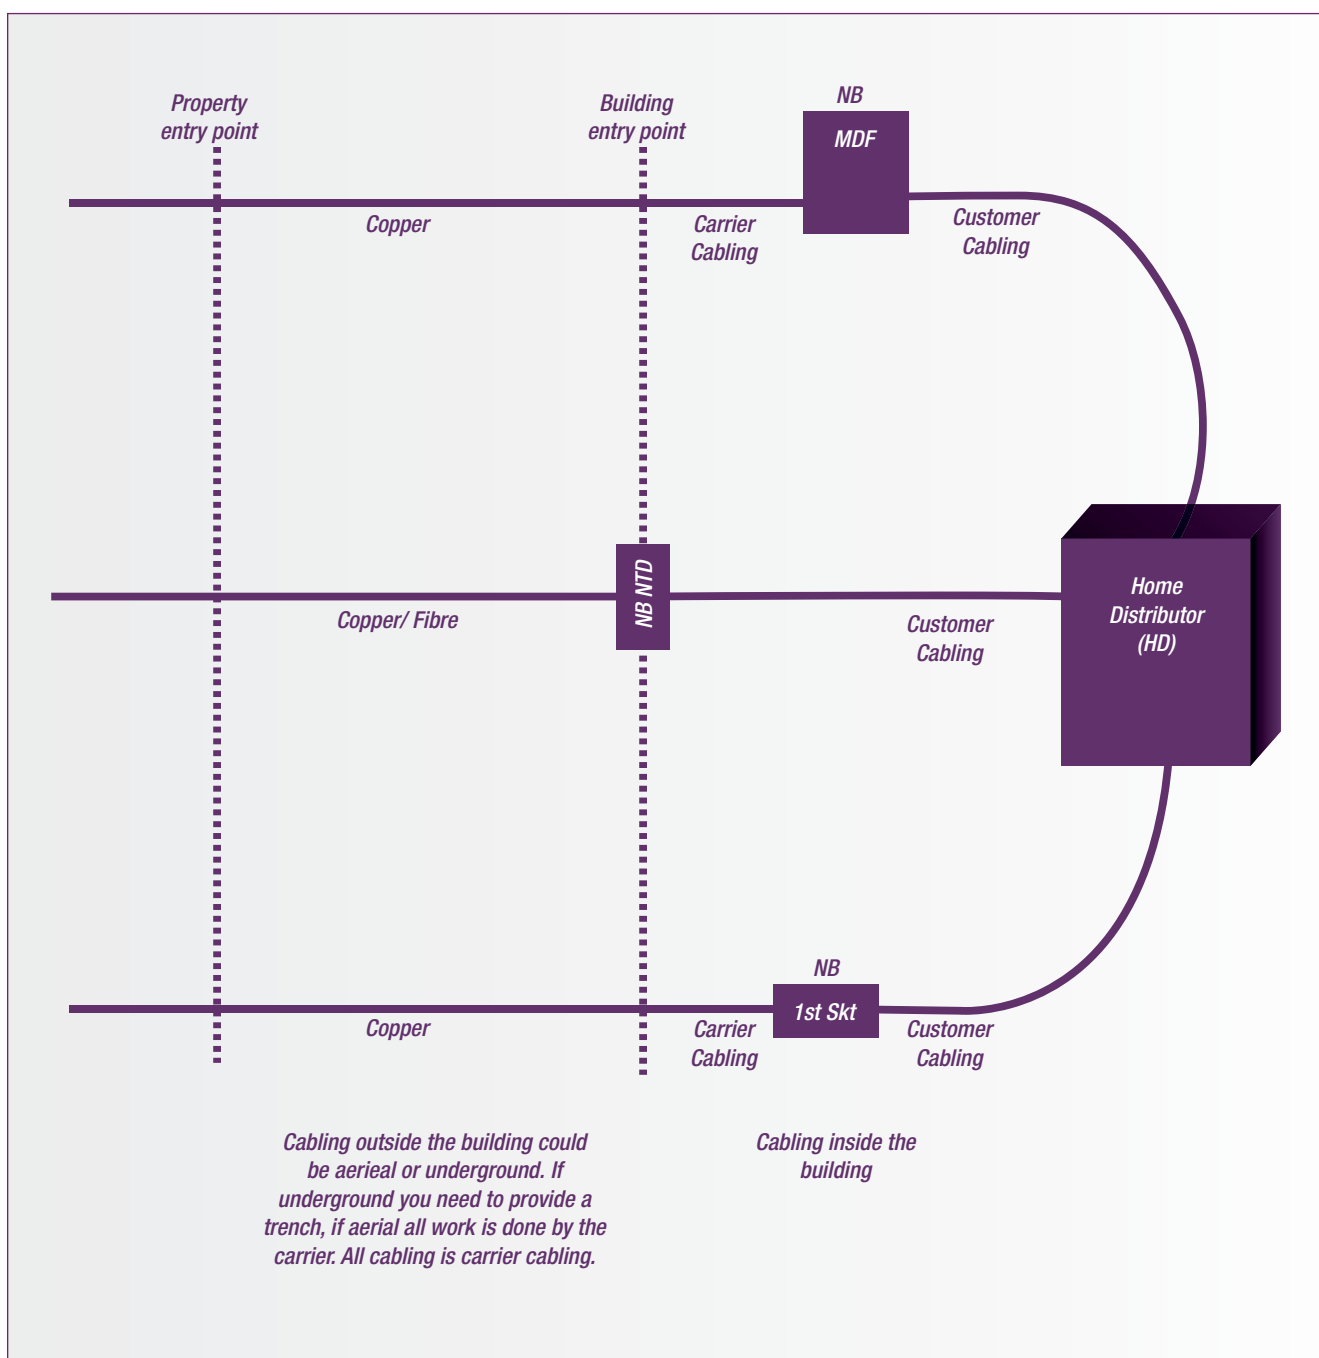

Figure 12 Example of copper lead-in cables
Figure 12 shows three possible configurations of a lead-in cable. The lead-in extends in all cases from the carrier's distribution point to the Network Boundary (NB), but the NB can be located either inside or outside the building. In all cases a cable is required from the Building Entry point to the location where the network boundary is located and onto the location of the HD. If unsure what cabling to provide between the Building Entry point and the NB, the best option is to install conduit from the